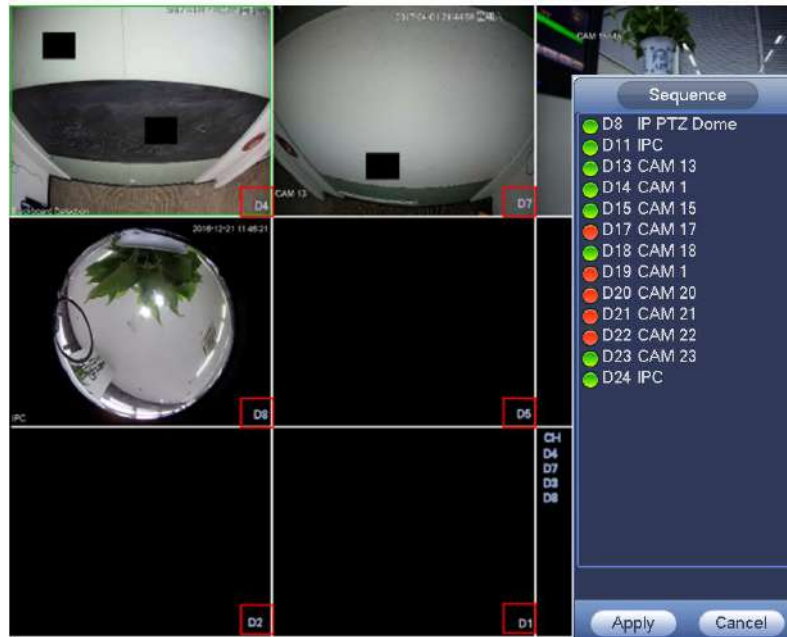

Figure 4-69
- Check the channel number at the right bottom corner to view the current channel sequence. See Figure 4-69.